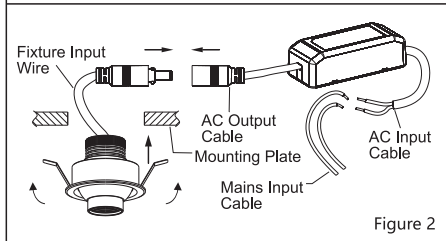

Figure 2
2. Connect the mains input lines (live/brown wire to L, neutral/blue wire to N) to the input terminals of the driver. Connect the fixture output lines to the driver's output terminals, ensuring secure connections with insulated tape. For threaded installation: Secure the fixture to the mounting plate first, then proceed with wiring to prevent loosening.(Figure2/3)